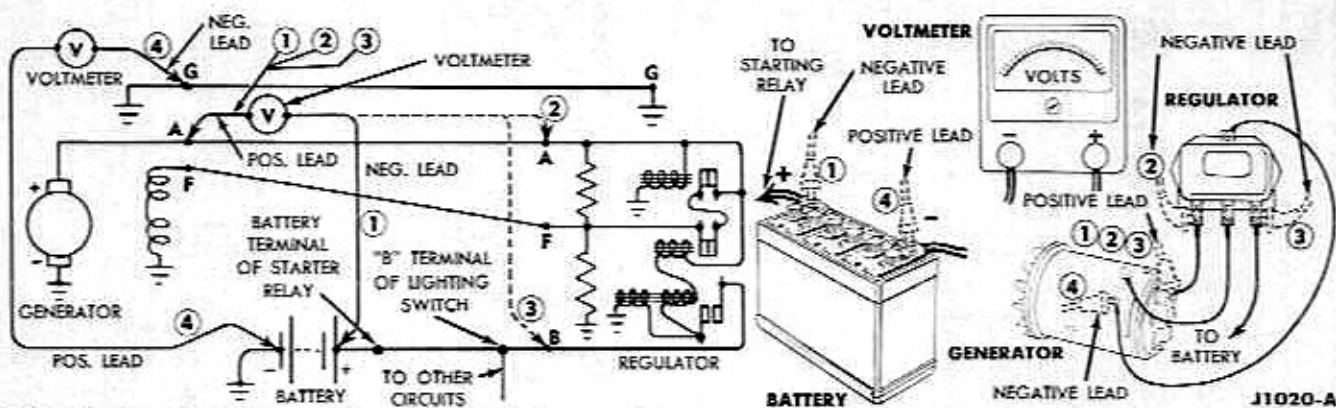

FIG. 19—Regulator External Circuit Test—Schematic and Connections
For the purpose of this test, the resistance values of the circuit have been converted to voltage drop readings for a current flow of 30 amperes. Connect the test equipment as shown in Fig. 19 to measure voltage drop around the circuit.
Touch the voltmeter negative lead to the center of the positive battery post (Fig. 19, connections marked ①) to check the generator to battery circuit. The voltage drop should be less than 0.7 volt.
Check the battery to generator ground circuit by connecting the voltmeter as shown in Fig. 19 (connections marked ④). The voltage reading should be less than 0.1 volt.